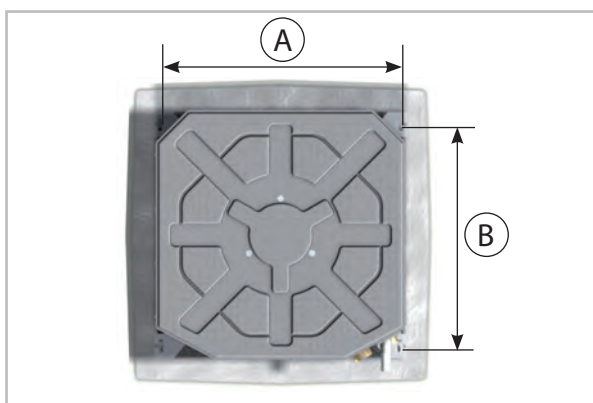

Fig. 25: Hooking in the unit
1. Use the dimensions of the ceiling cassette to mark the fixing points for the threaded rods on structural parts approved to support the static load above the suspended ceiling (Fig. 25).